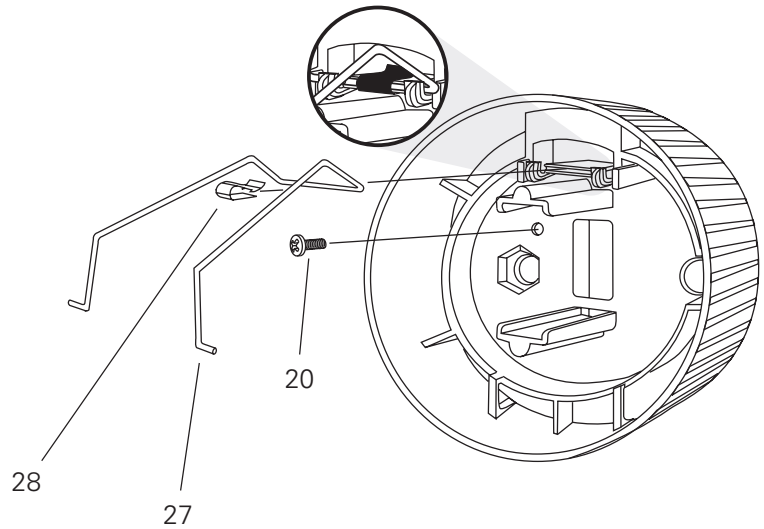

Figure 10
1. Install the screw (20) into the light socket baffle casting as shown in figure 3. (Also see figure 10 on page 9.)
19. Press the two castings together firmly so the bottom of the light baffle (2) sits on top of the cable clamp (17), then install the X-Y lampset (3) and Z lamp knob (4). Hand tighten the knob all the way to the right.
20. Set the crossbar of the retainer clip (27) under the two hooks on the clip bracket as shown in figure 10.
21. Place the Tinnerman clip (28) over the retainer clip crossbar between the two hooks and press it down firmly until it snaps into place.